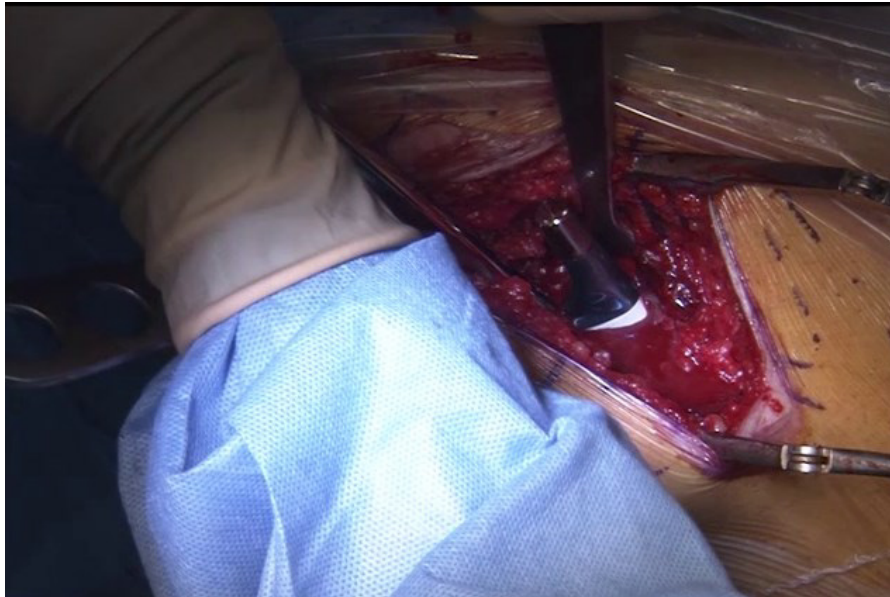

figure 19
- The final femoral stem is inserted using an impactor, ensuring control of anteversion (Figure 19).